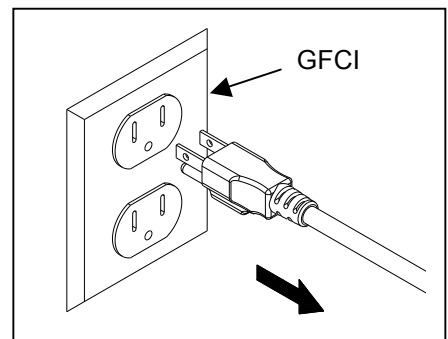

Fig. 13
1. Disconnect the UV light from the outlet. Be sure to allow sufficient time for the light to cool before disassembling the light. Fig. 13